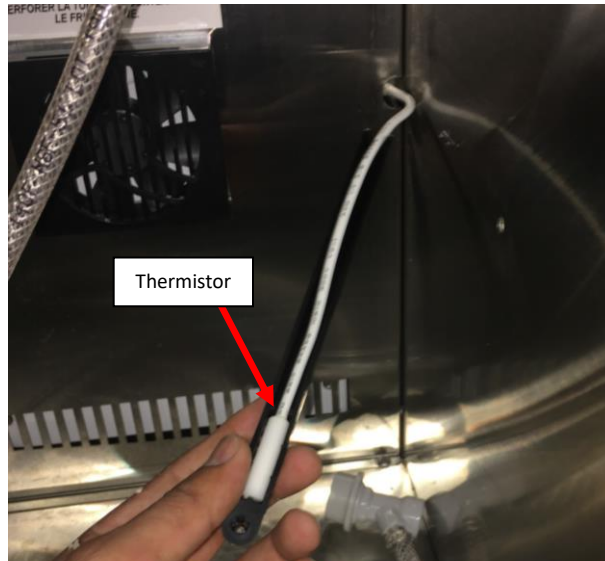

Figure L15: *Thermistor inside the Thermistor Cover.*
13. Remove the Thermistor from the cover so it can be fully removed. **See Figure L15.**
14. Pull the Thermistor until the entire length of the wire attached to it is removed. See **Figure L15**.